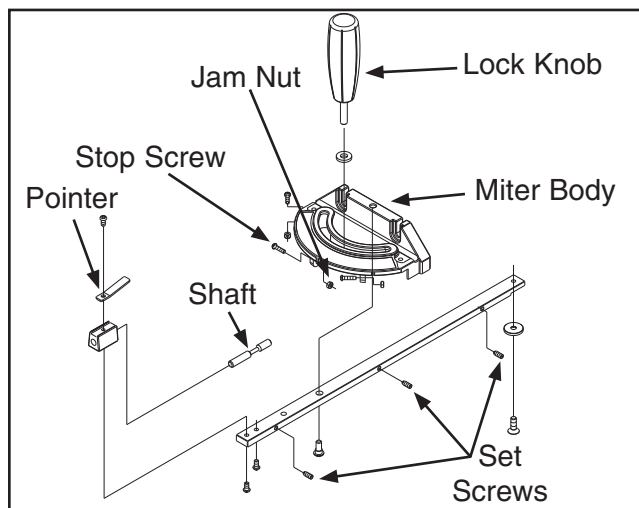

Figure 83. Miter gauge diagram.
- Push in the shaft (**Figure 83**).
- Loosen the jam nut and adjust the stop screw until it is seated against the shaft (see **Figure 83** for part locations), then tighten the jam nut.
- To fit the miter bar tighter in the miter slot, turn the adjustment set screws shown in **Figure 83** clockwise in small increments, and test fit between adjustments until the miter gauge fits your expectations.